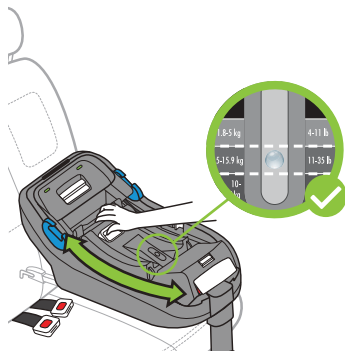

Figure 49
- Pull and hold Recline Sled Adjustment Handle and rotate Recline Sled, as shown on **Figure 49**, to the maximum recline adjustment position that keeps part of the bubble within the range specified on the Recline Indicator for the child's weight.